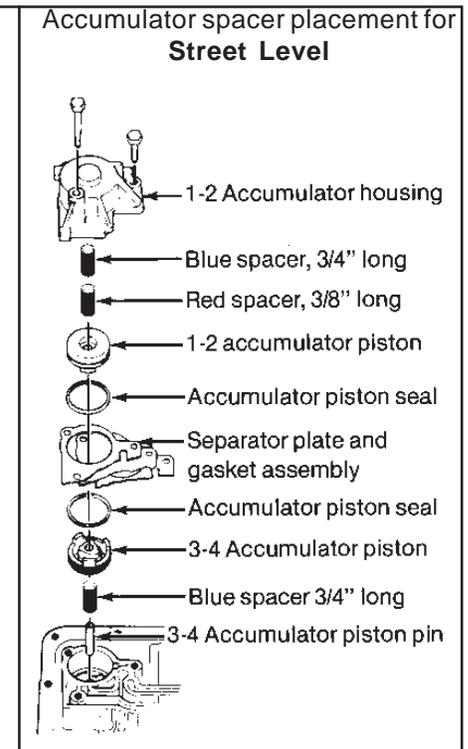

Figure 11
STEP 14. Street Only; Place the 3-4 accumulator pin in the case (See Fig. 11). Place the **BLUE** (3/4") spacer and accumulator piston over the pin, using a dab of grease or petroleum jelly to hold them in place.